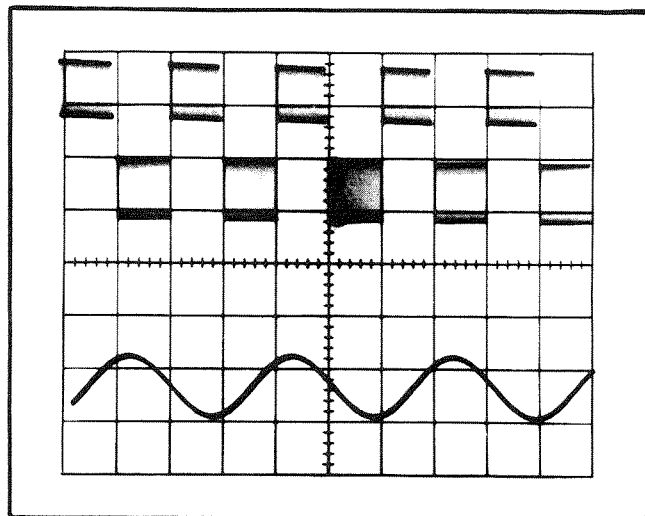

Fig. 2-14. Displaying a complex signal using delayed sweep.
**Example.** Fig. 2-14 shows a complex waveform as displayed on the CRT. The intensified portion of the waveform cannot be viewed in any greater detail because the sweep is triggered by the larger amplitude pulses at the start of the display and a faster sweep rate moves this area of the waveform off the viewing area. The second waveform shows the area of interest magnified 10 times using Delayed Sweep. The DELAY-TIME MULTIPLIER dial has been adjusted so the delayed sweep starts just before the area of interest.